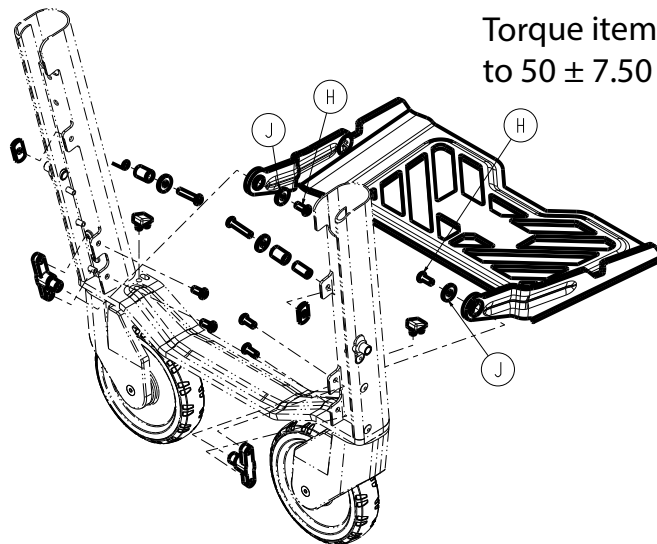

**Figure 18 –**
5. Using a 1/8" hex driver, remove the lower handle flanged sleeves (AA) (Figure 18) that secure the lower handle assemblies to the front caster assembly. Save the lower handle flanged sleeves.
**Note** - Using a torque wrench, torque the lower handle flanged sleeves (AA) to  $45 \pm 6.75$  in-lb when you reinstall.